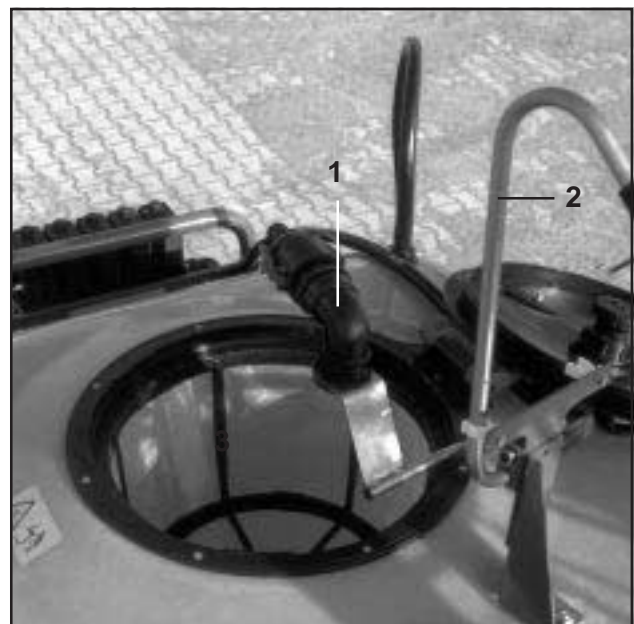

Fig. 6.3
- **Filling** the spray mixture tank of the **UG 2000 Special** (Fig. 6.3) is conducted via the **external water filling** (Fig. 6.3/1) into the **filling opening** in **"free flow"**. Depending on the way of operation it is also possible to swivel the canister-cleaning device over the filling opening.